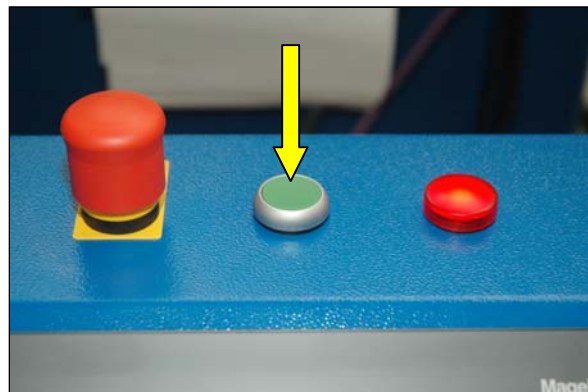

Figure 48 Emergency stop button, reset button and error indicator
- ▶ If the emergency stop button was pushed, pull it out again (Figure 48).